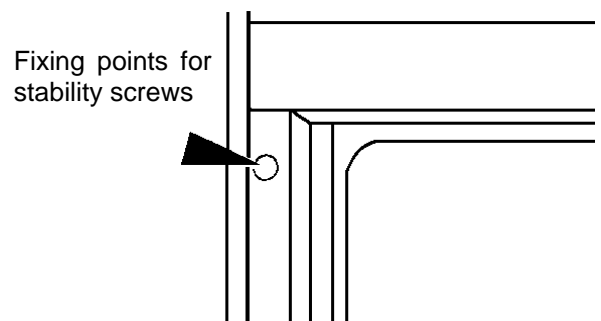

Fig. 9
- h) When the appliance is fully housed screw the stability screws (supplied with the appliance) into the side of the cabinet taking care not to distort the side trims (See Fig 9). It is advisable to turn each screw alternatively to avoid damaging the trims.